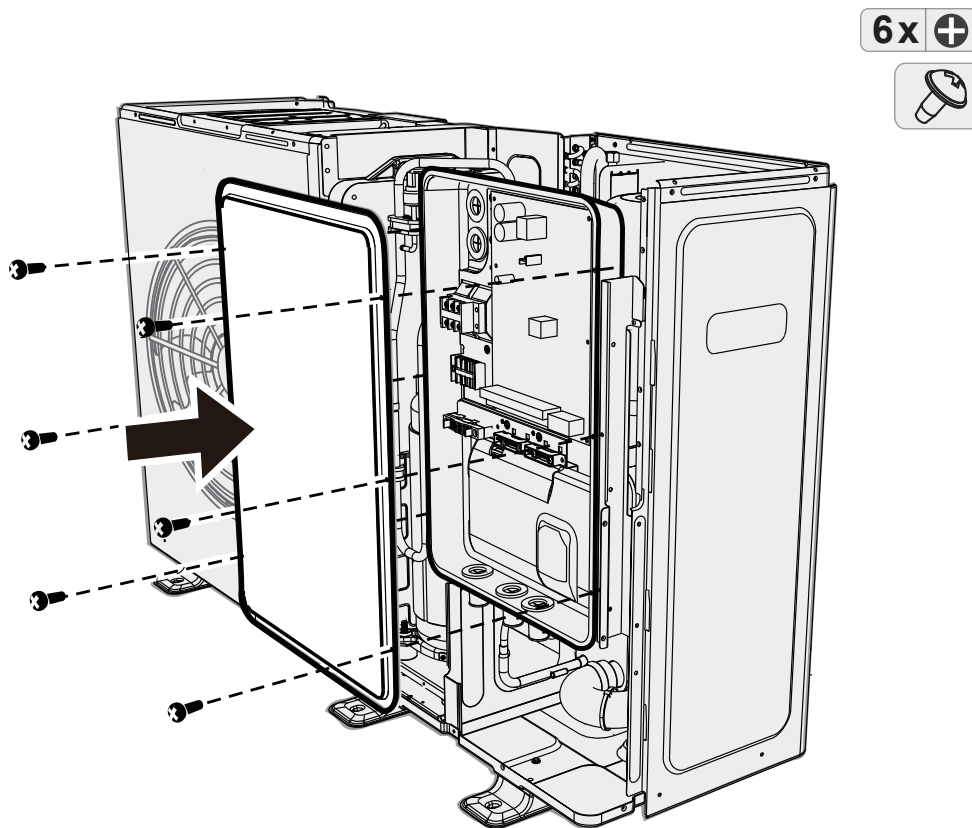

Figure 47. HP290 Monobloc (Access to Outdoor Control PCB)
2. Gain access to the HP290 Monobloc Outdoor Control PCB (see Figure 47). Remove and keep the Control Box cover retaining screws and remove the cover.